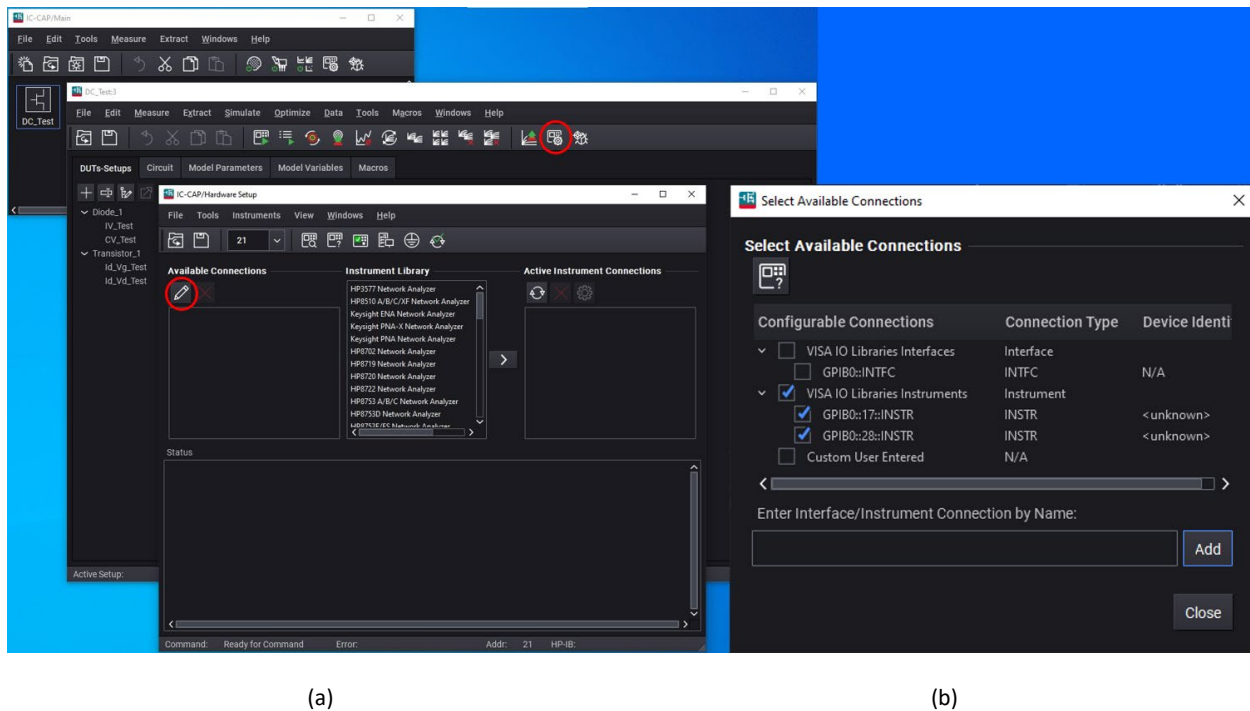

Fig. 1.2. IC-CAP hardware setup.
- 1.10 In the top menu of "DC_Test.mdl," click on  to "Open Hardware Setup" as shown in Fig. 1.2(a).
- 1.11 Under "Available Connections," click on  to "Select Available Connections" and check "VISA IO Libraries Instruments." Confirm that "GPIB0::17::INSTR" and "GPIB0::28::INSTR" are checked as shown in Fig. 1.2(b). Close the window and get back to the home screen of "DC_Test."